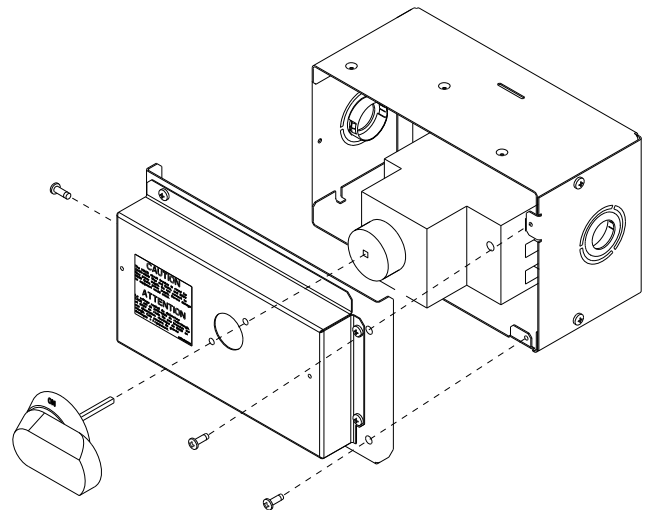

Fig. 22 — HACR Handle and Shaft Assembly
- Remove (3) cap head screws that secure the HACR enclosure — (2) on the face of the cover and (1) on the left side cover. See Fig. 22.
- Insert the shaft all the way with the cross pin on the top of the shaft in the horizontal position. See Fig. 22.
- Secure the handle to the painted cover with (2) screws and lock washers supplied.
- Engaging the shaft into the handle socket, re-install (3) hex screws on the HACR enclosure.